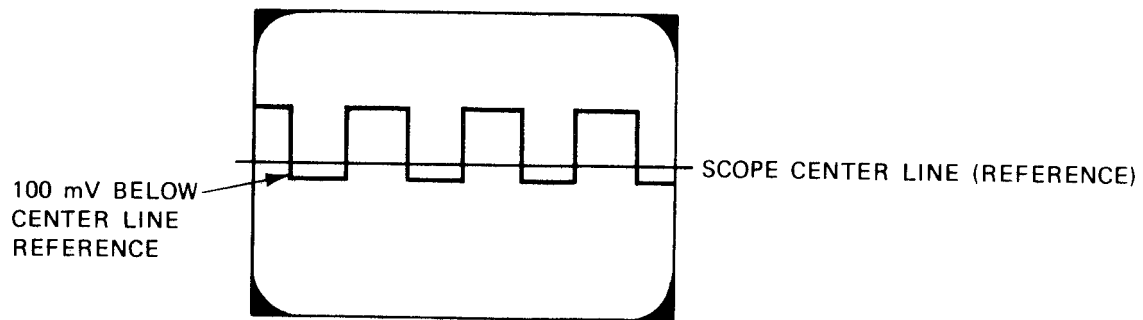

FIGURE 2
- e. Adjust pulse generator offset so the bottom of the pulse is 100 millivolts below center reference line (see Figure 2).